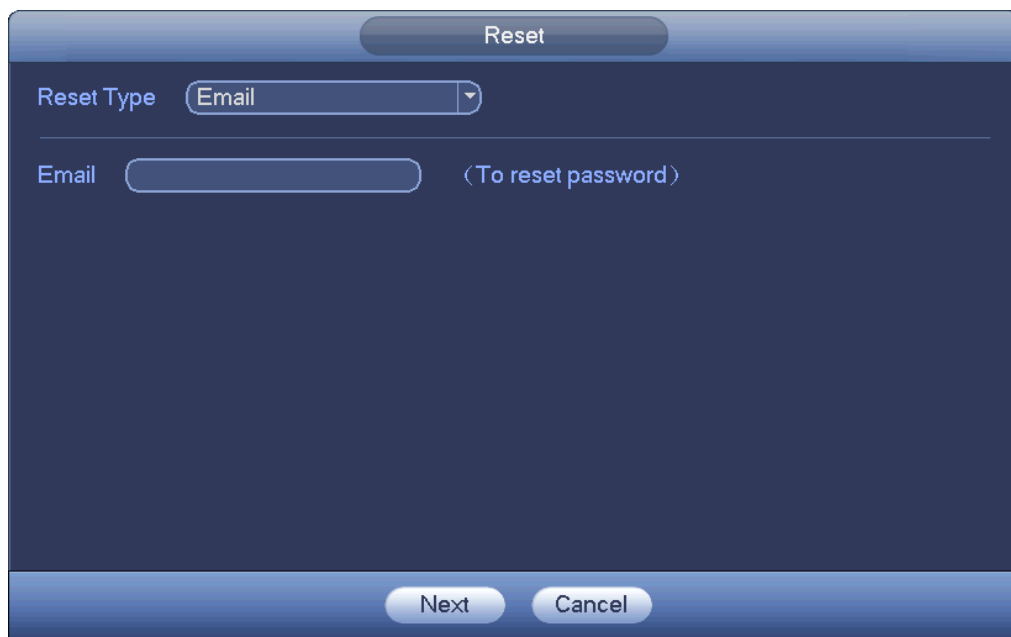
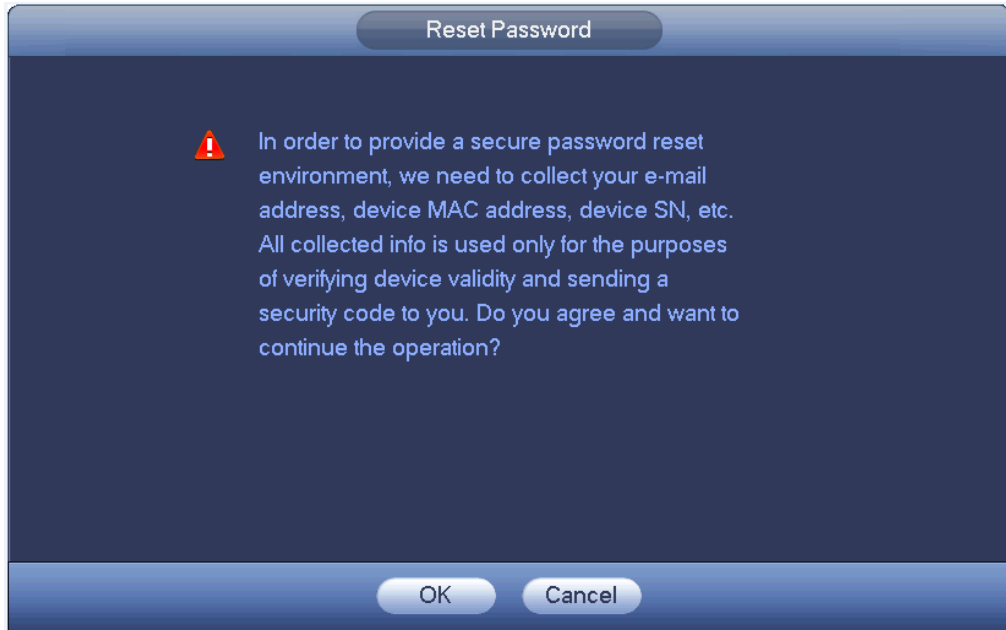

Figure 4-6
Figure 4-7
- If you have not input email address information when you are initializing the device, the interface is shown as in Figure 4-6. Please input an email address, click Next button, and then device goes to Figure 4-7.
- If you have input email when you are initializing the device, device goes to Figure 4-7.
In Figure 4-6, select security question from the drop down list. Device displays security question interface. See Figure 4-9. Please input the correct answers here.